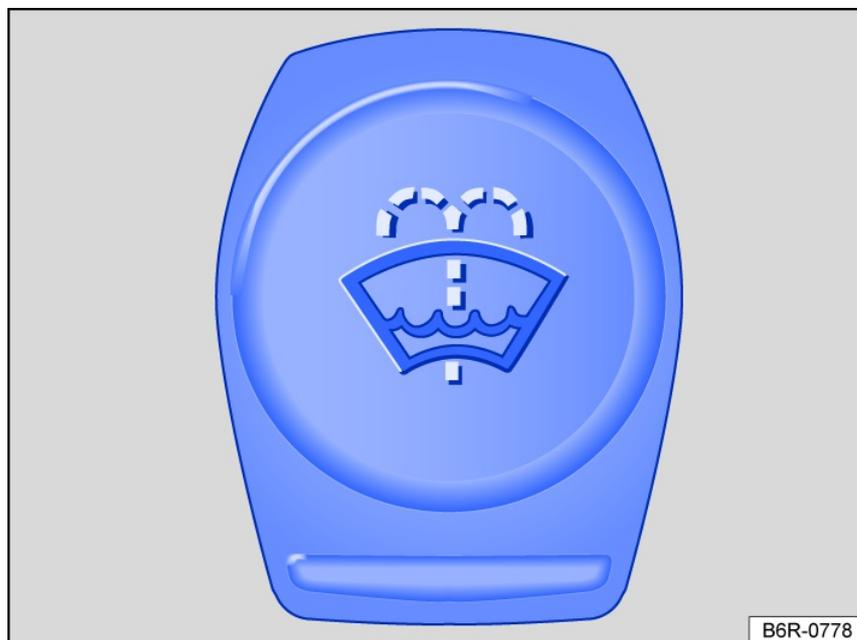

Fig. 192 In the engine compartment: cap on the washer fluid reservoir.
- The washer fluid reservoir is identified with the  symbol on the cap *fig. 192*.